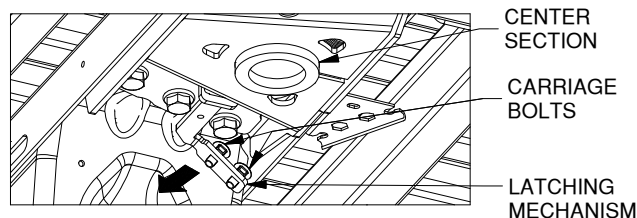

Figure D2: Looking up at center section.
2. **Install bolts.** Retract the latching mechanism by pulling on the tab with the square holes and pushing it toward the cab. From the top down, insert a 3/8" carriage bolt in each of the square holes in the latching mechanism, see Figure D2.